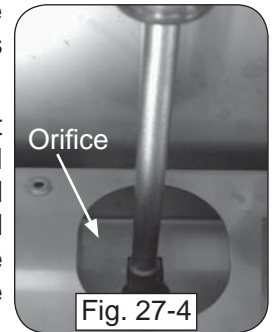

Fig. 27-4
5. Use a  $\frac{3}{8}$ " hex nut driver to remove the exposed orifice (Fig. 27-4) and replace it with the correct orifice for the new gas. (See Table 1 at the beginning of this document for orifice sizes.)